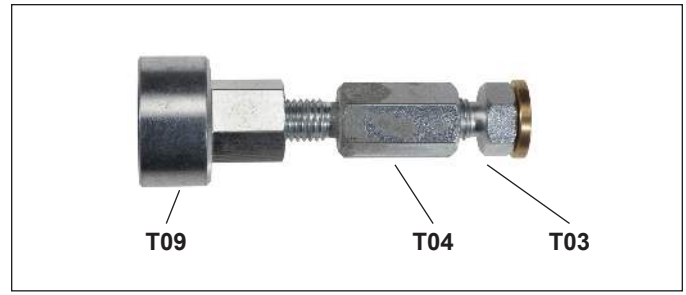
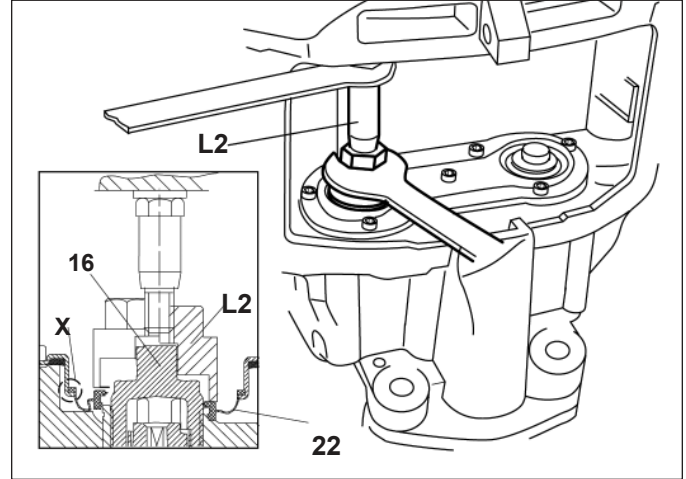

Figure 55 – On-Vehicle Inner Seal Installation Tool (L2)
Figure 56 – Off-Vehicle Inner Seal Installation
5.5.13 Position the replacement inner seal (22) over the threaded tube (16). See Figures 55 and 56 for the tools and installation arrangement used. The threaded tubes need to be retracted to allow the tool to be inserted. Use the combination tool L2 (T04 + T03 + T09) with the long spacer (T04) as shown in Figure 56. Since the installation tool is guided by the center post of the threaded tube, advance the tube a small amount to align the tool and the center post. Install the new inner seal (22) into position by rotating the adjuster nut on the T04 portion of the tool using an open-ended wrench.